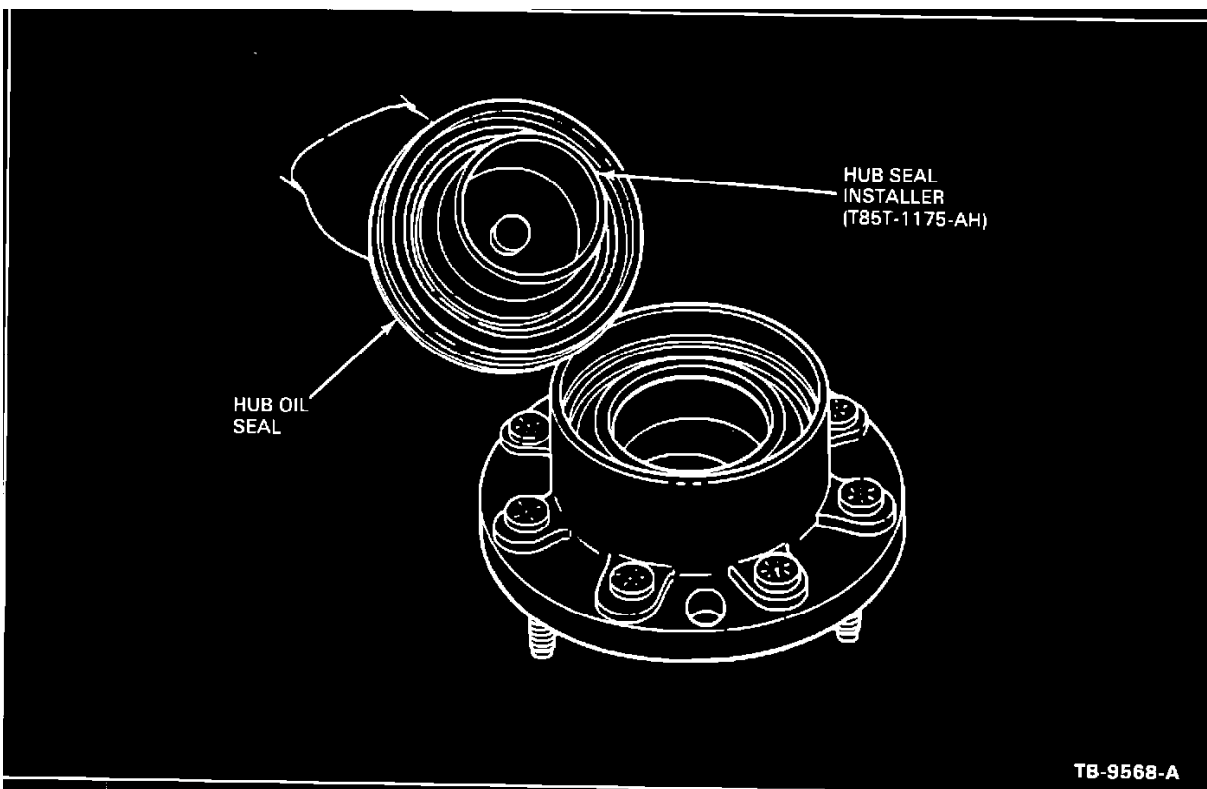

FIGURE 13
2. Install hub seal on hub seal installer tool (T85T-1175-AH), Figure 13.